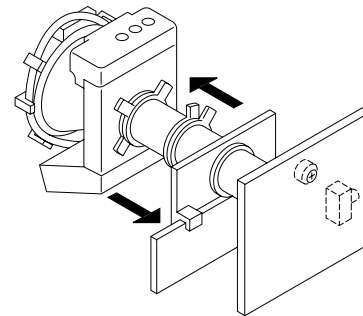

Fig. 3-2
5. Move the deflection yoke forward and adjust so that the entire screen is green. (See Figure 3-2.)